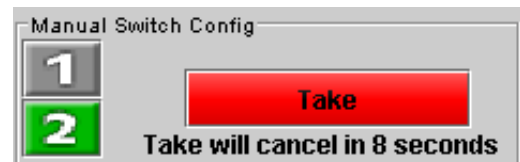

Figure 3.5 Manual Switch Controls
- Click on the other source, which will then show in green. The Take button is now activated, appearing red (see figure 3.5).